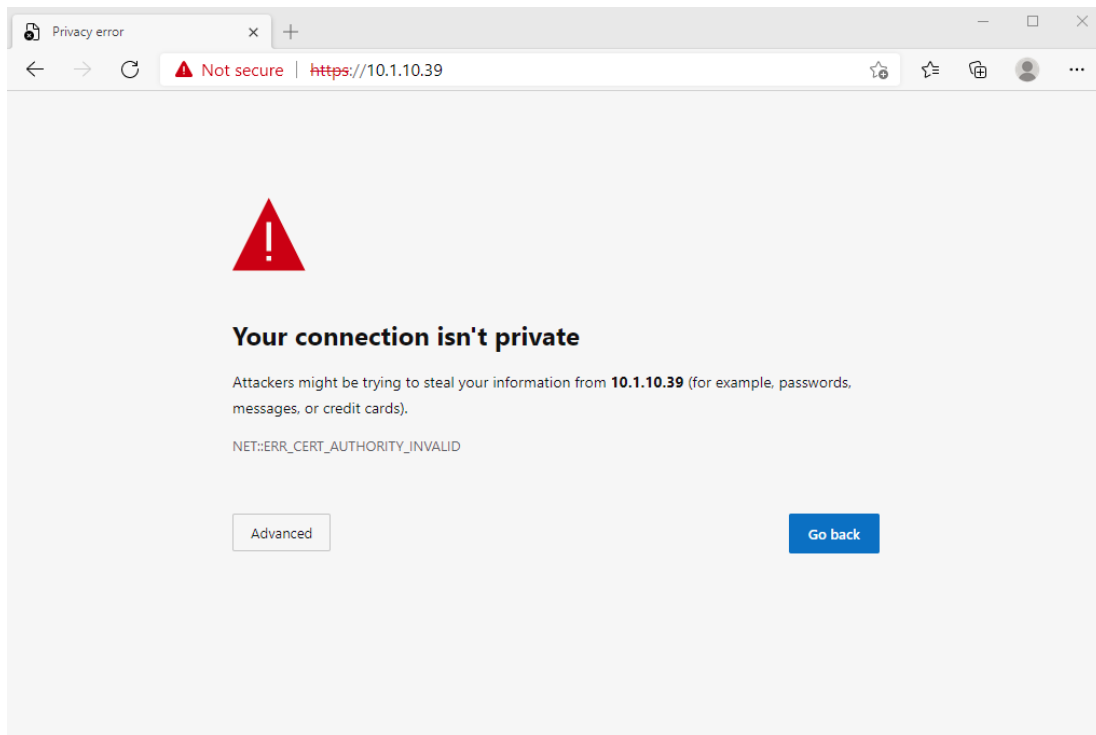

Figure 132: Accessing the built-in web server ("This site is not secure").
4. The browser might show you a warning about an invalid web server certificate, as illustrated in Figure 132. Make sure, that you have typed in the correct IP address.